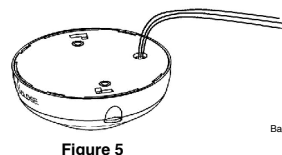

Figure 5
6. Attach the sensor as shown in Figures 5 and 6.